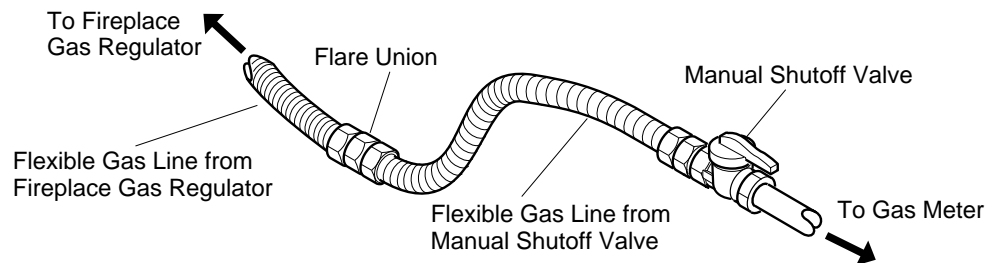

Figure 20 - Attaching Flexible Gas Lines Together
4. Attach a 45° flare union gas connector to flexible gas line from gas supply (see Figure 20). Connect flare union to flexible gas line attached to gas regulator of fireplace (see Figure 20).